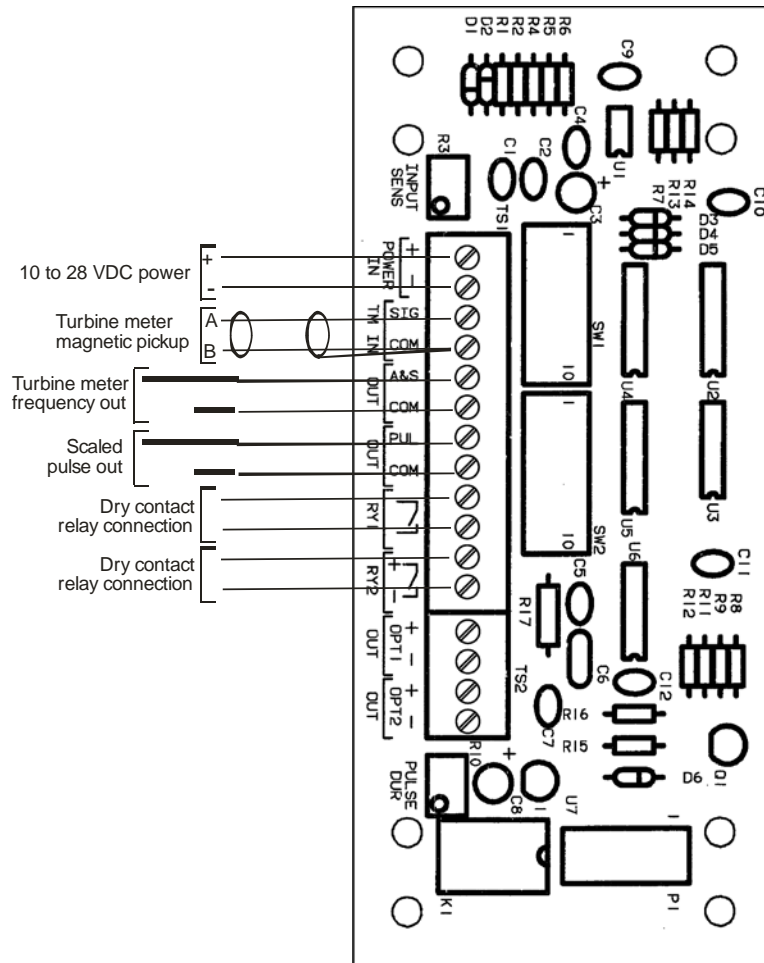

Figure 2— Field Wiring
All field wiring is attached to the instrument on the 16-position terminal strip near the edge of the circuit board (Figure 2).
1. Connect the power supply to the **POWER IN** terminals as shown in Figure 2.